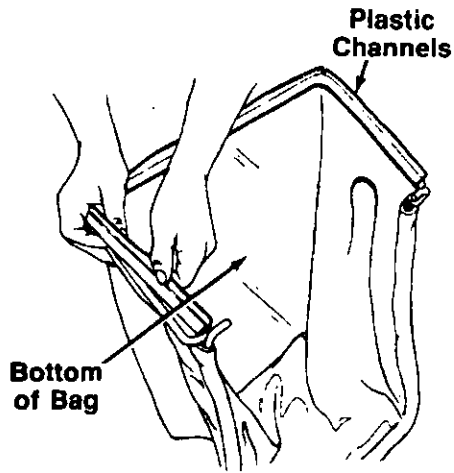

FIGURE 13.
3. Secure front of bag to front frame by slipping plastic channels on sides and bottom of bag over frame. See figure 13.